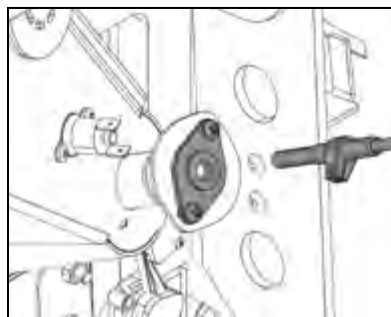

Figure 8-4: Removing the photocell
9. It will be necessary at this point to remove the photocell from the mount on the left side of the boiler heat exchanger. Refer to Figure 8-4.